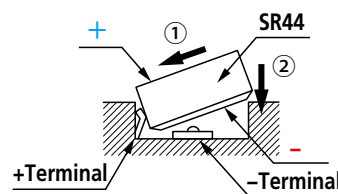

Fig. 2
3. For a digimatic type, use an SR44 battery (**Order No. 938882**). (**Fig. 2**)